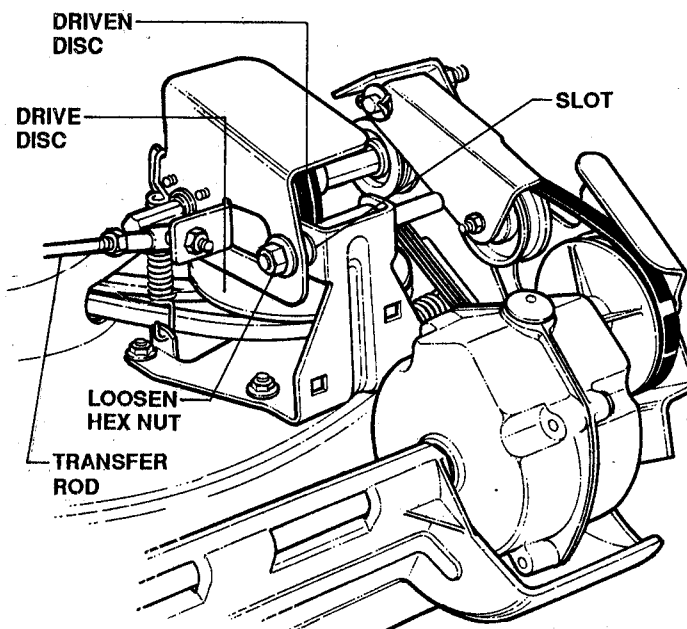

FIGURE 3.13
- To adjust tracking, loosen hex nut shown in Figure 3.13 and move driven disc forward or rearward until the rubber ring contacts the drive disc surface 1/8" in front of the imaginary reference centerline (C of Drive Disc). Retighten hex nut.